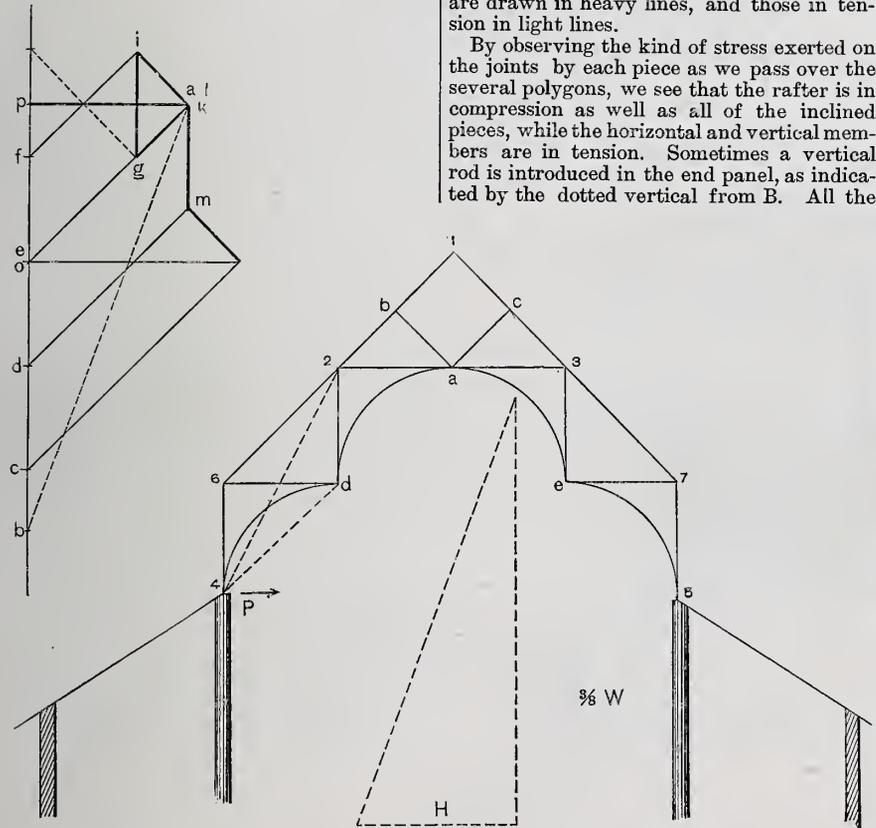

Fig. 21.—Stress Diagram for Hammer Beam Truss of the Form 4, 6, 1, 7, 5.
there are no side roofs, the main walls must be properly strengthened by buttresses. It will first be well to remember that a curved piece in a truss, so far as the transmission of force from joint to joint is concerned, acts as if it lay in the straight line between two joints. The curved members in the diagram Fig. 21, are quadrants of a circle, but they may have any other curve, depending somewhat upon the pitch of the roof. If we now consider the point of support (4) of the truss and remember that the curved piece (4-d) transmits the force between its two extremities as if it were straight, it will be evident that the thrust of the inclined piece must have a horizontal component which cannot be neutralized by a vertical supporting force alone. Therefore, in addition to the reaction of half the weight of the roof and truss, there must be supplied by the wall, assisted say by a buttress or a side-roof, a certain horizontal thrust.
The next form of truss which we shall consider is one where the walls have not merely to support the truss and its load, but are also subject to a horizontal thrust, in consequence of the peculiar framing of the truss. Fig. 21 represents a frame which is commonly called a hammer-beam truss. It is a very handsome type of roof trussing and finds most frequent application in church architecture. When the church has a clear story, the windows come between the trusses, the truss is supported on columns, and the roof of the side aisle takes up the horizontal thrust. If